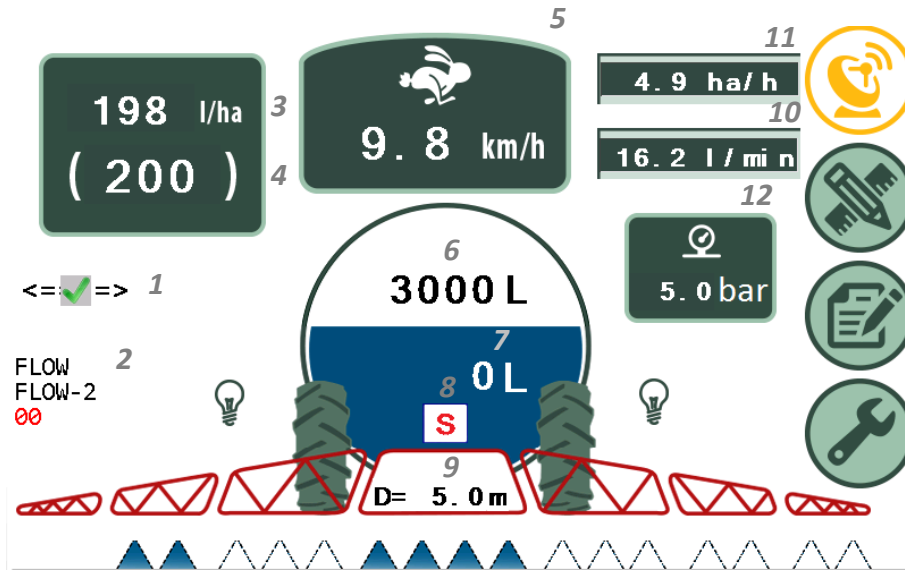

Figure 9
- Information fields are intended to inform the user about the parameters of spraying (Figure 9).